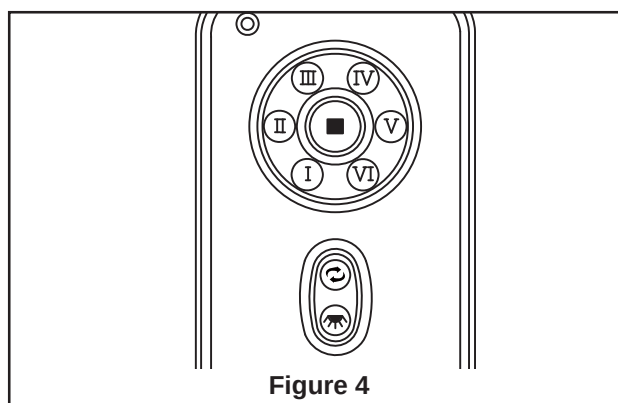

Figure 4
- Light button: Controls light on/off and, infinite light levels (performed by holding down the light on/off button). (Figure 4)